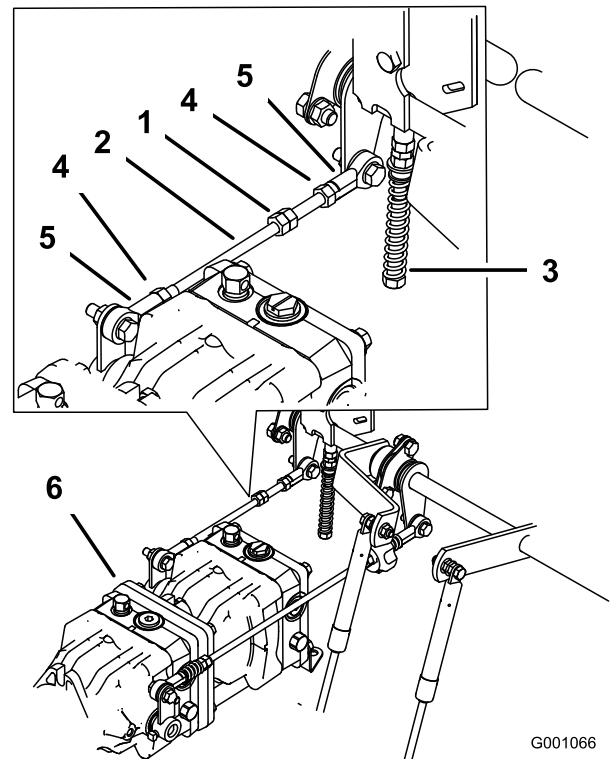

Figure 91
- Loosen the locknuts at the ball joints on the pump control rod (Figure 91).
- Adjust the pump rod length by rotating double nuts on rod, in the appropriate direction, until wheel is still or slightly creeps in reverse (Figure 91).
- Tighten the locknuts at the ball joints (Figure 91).